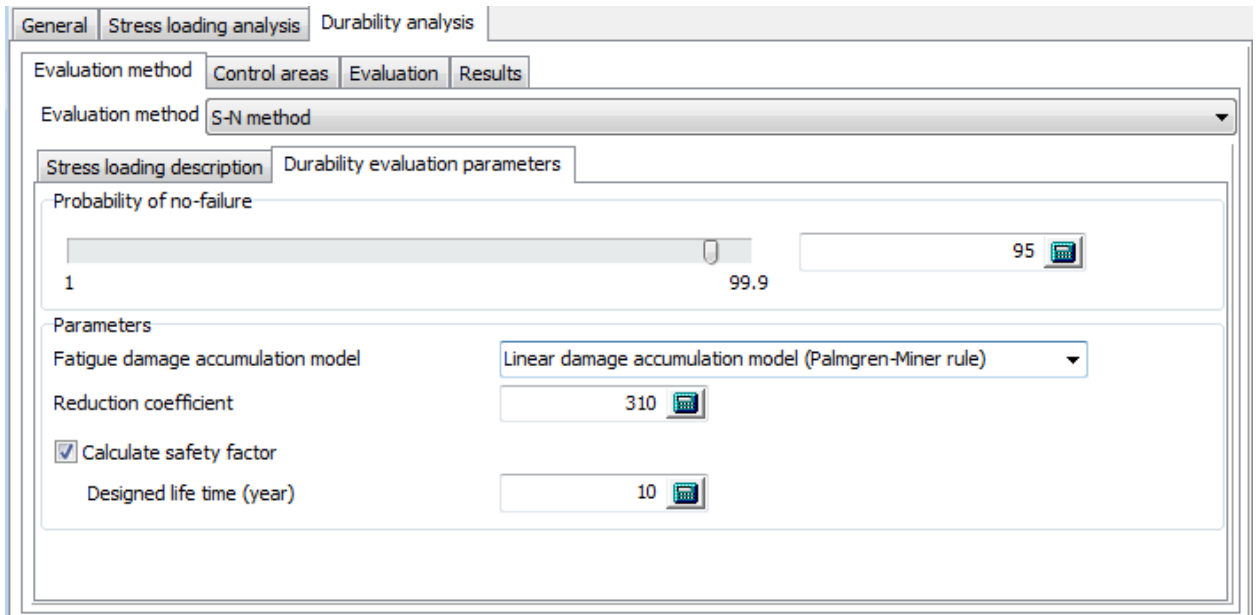

Figure 2.26. Parameters setting: durability evaluation parameters
7. Select **Durability evaluation parameters** tab, see Figure 2.26.